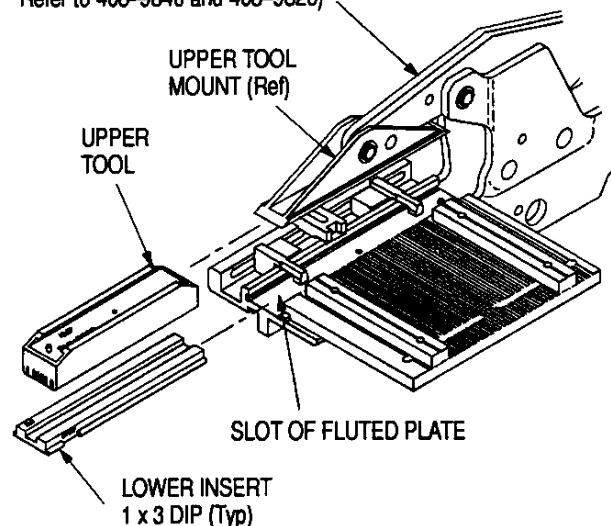

Figure 3
4. CONNECTOR-SPECIFIC KIT INSTALLATION (Figures 3 and 4)